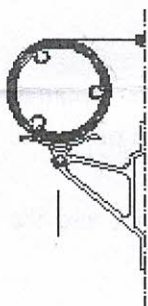

Figure 2
3. Position the cradle and bracket under the roller (as close as possible to the centre of the roller) and seat the cradle lightly against the fabric – see figure 2.